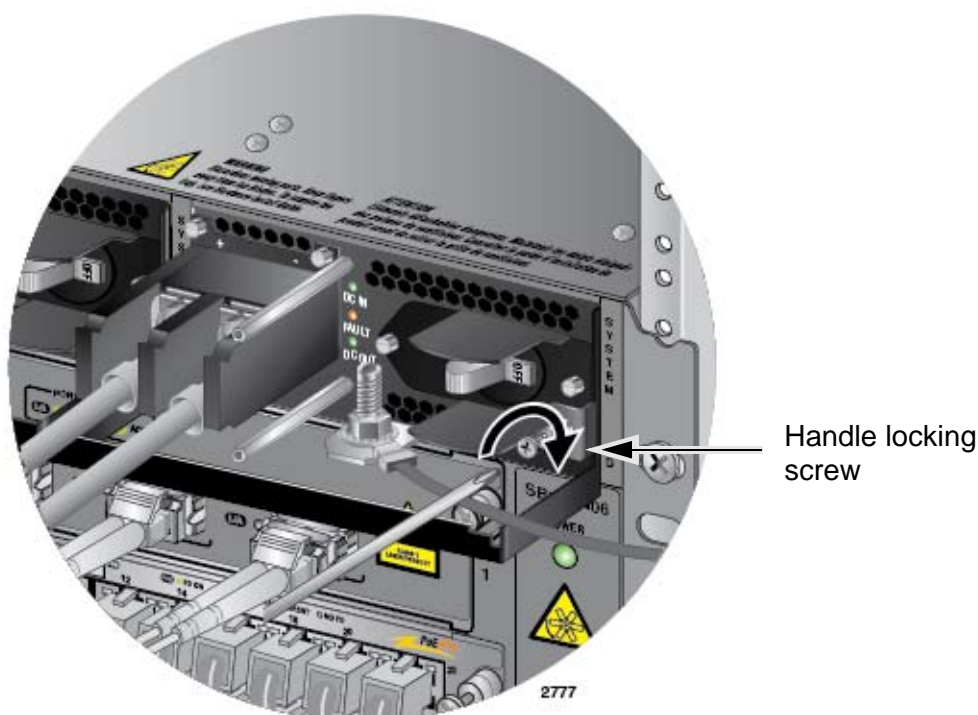

Figure 150. Tightening the Handle Locking Screw
8. With a #2 Phillips-head screwdriver, tighten the handle locking screw to secure the power supply to the chassis. See Figure 150 on page 208.